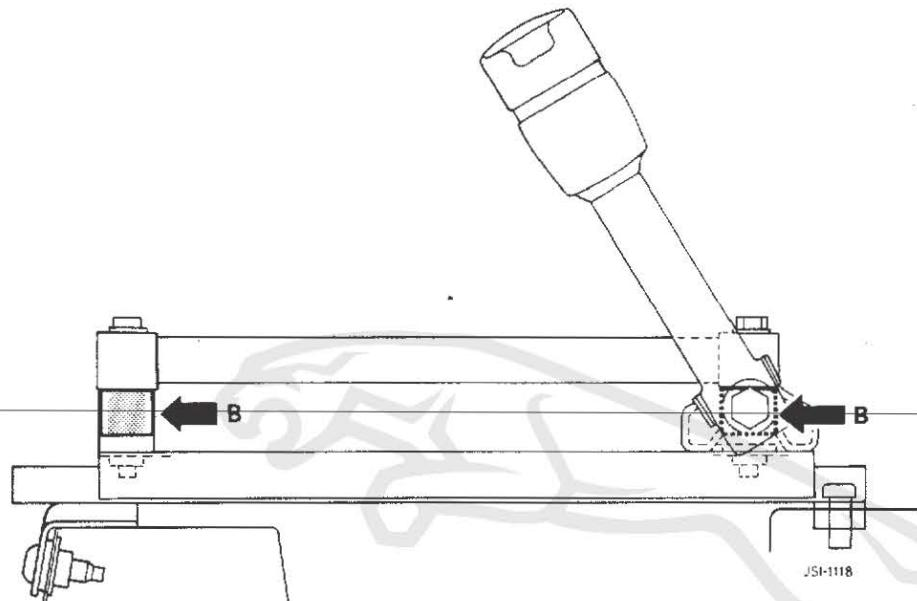

FIG 3
- d) Re-assemble the seat frame to the slide runners with spacer Part No. BEC 6354 positioned at location 'B' Fig 3. Use hex head bolts 4 off (and washers from Item 2b), Part No. BH.108141J, size M8 x 70 mm. Tighten to a torque of 18.2 Nm to re-secure the seat frame to the slide runners.